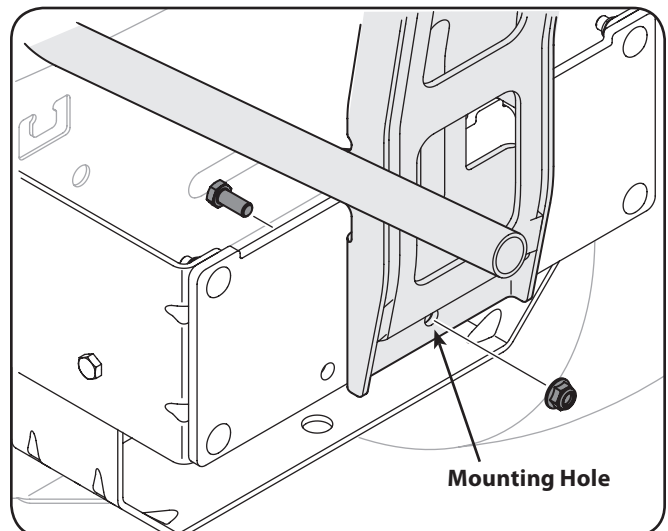

Figure 4-7
3. Install the bagger hanger assembly onto the mounting assembly on the tractor by hooking it over the hitch plate in the center, lining up the center mounting hole as seen in Fig. 4-7.
4. Secure the hanger assembly to the mounting assembly using a 5/16" bolt and flange nut provided. See Fig. 4-7.